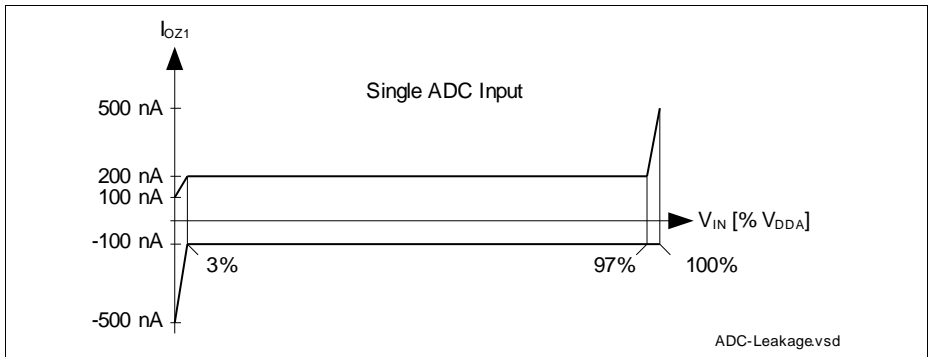

Figure 9 VADC Analog Input Leakage Current
- 3) The leakage current definition is a continuous function, as shown in figure ADCx Analog Inputs Leakage. The numerical values defined determine the characteristic points of the given continuous linear approximation - they do not define step function (see Figure 9).